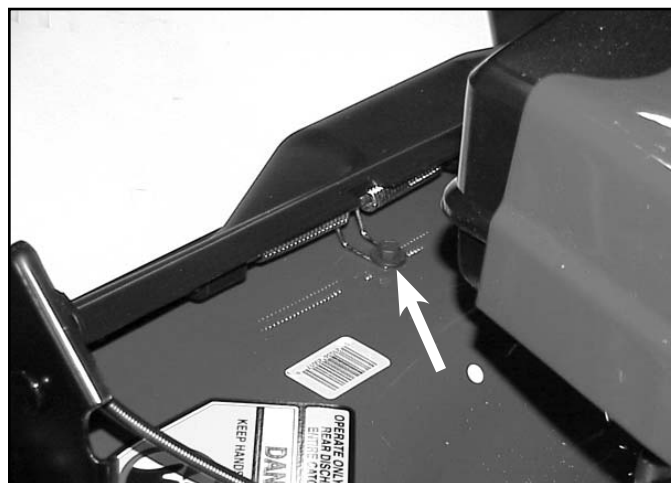

Fig 061
2. Remove the single retaining screw from the center of the bag door spring. Slide the door to one side and remove it from the rear HOC side plates (Fig. 061).